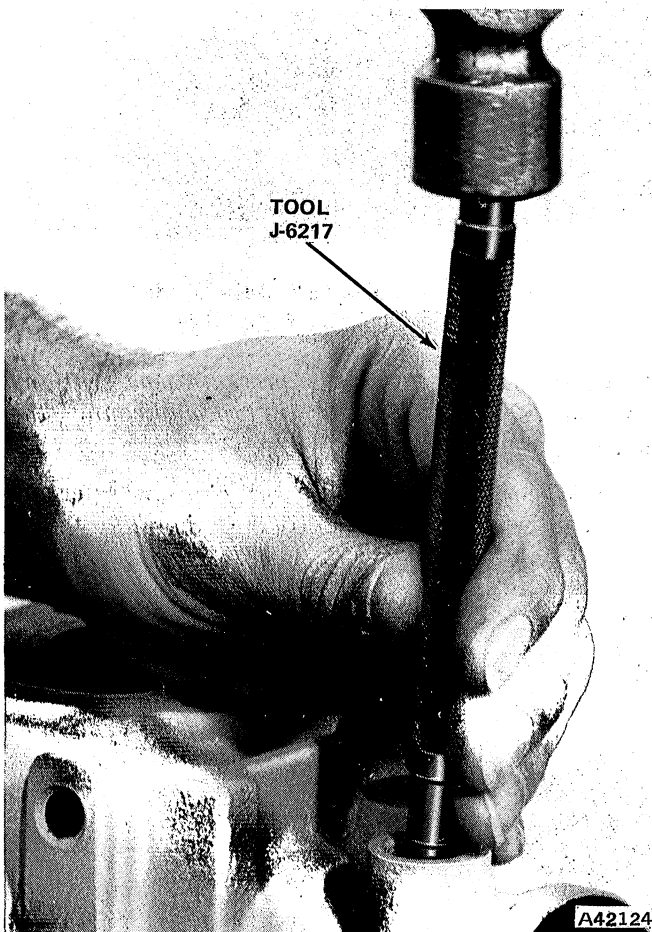

Fig. 2L-22 Hose Connector Seat Installation
- (4) Place wrench on bolt to prevent it from turning and tighten nut against housing to remove seat.
- (5) Remove check valve and spring from pressure port and discard both parts, they are not reuseable.
- (6) Clean housing thoroughly to remove metal chips and shavings, dirt, and petroleum jelly.
- (7) Install replacement check valve spring in pressure port. Be sure spring is seated in pressure port counterbore and large end of spring faces downward.
- (8) Install replacement check valve over spring so valve tangs face downward. Be sure valve is centered on small end of spring.
- (9) Coat replacement pressure port connector seat with petroleum jelly and position seat on top of check valve.
- (10) Insert replacement return port connector seat in port.
- (11) Install both seats using Tool J-6217 (fig. 2L-22).